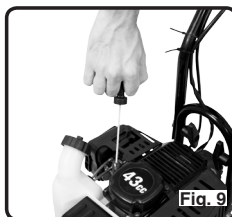

Fig. 9
5. Grab the recoil starter handle with your right hand, and support the cultivator with your left hand. (See Figure 9)
4. Grab the recoil starter handle with your right hand, and support the cultivator with your left hand. (See Figure 9)